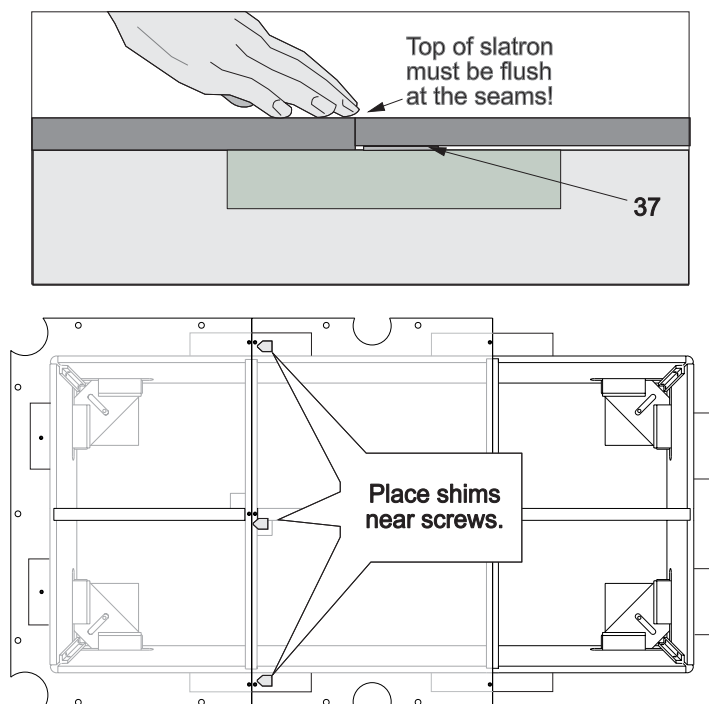

Figure 11
- D) Check with a carpenter's level to determine where slate/slatron is low on ends, and use finger tips to locate uneven spots at the seams. Loosen screws at these points and see if slate/slatron comes up to flush. If so, detach individual shims #37 from the sheet shipped with this table and place under these areas. **Place shims next to screws.** (See Figure 11)